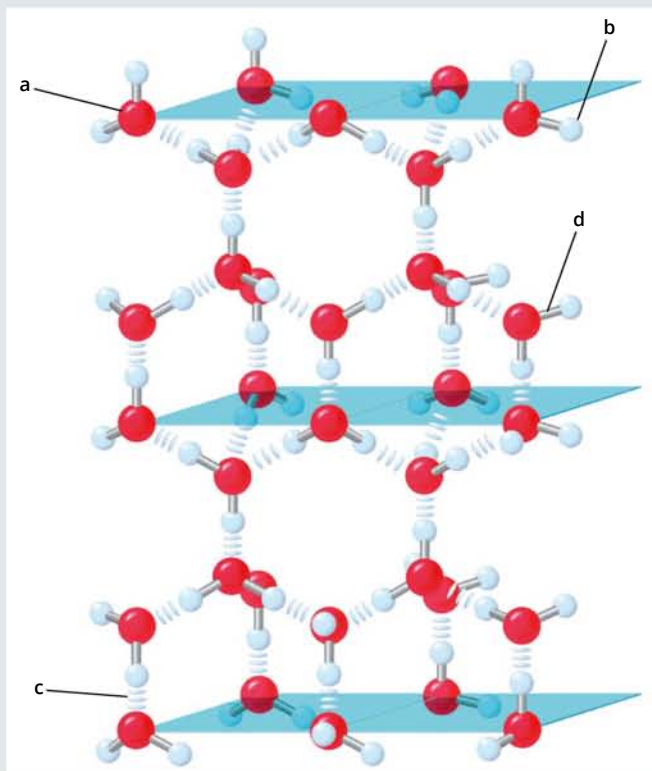

FIGURE 12.4.1
- 2 Figure 12.4.1 shows the arrangement of water molecules in ice. Identify the parts of the diagram labelled a–d.